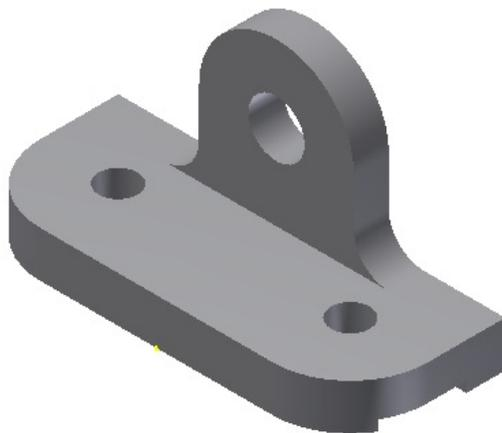

Figure 6-163 Model after creating counterbore holes
11. Choose **OK** from the **Mirror** dialog box to complete the mirror operation; the final model after filleting and mirroring is shown in Figure 6-163.